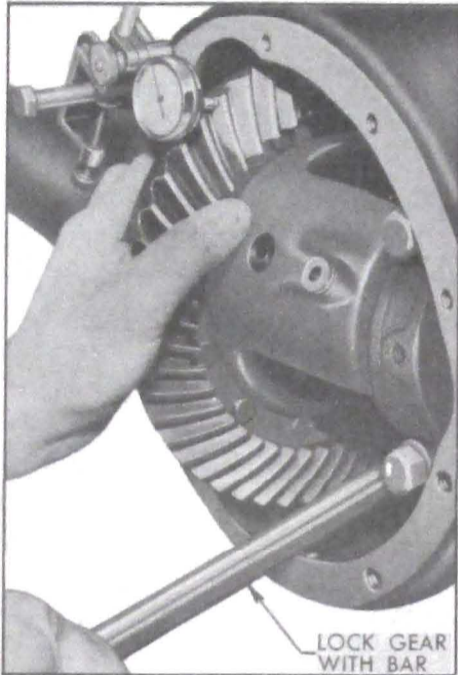

Figure 6-23—Checking Back Lash with Dial Indicator
8. Mount dial indicator as shown in figure 6-23. Use a small button on indicator stem so that contact can be made near heel end of tooth. Set dial indicator so that indicator stem is as nearly in line with gear rotation as possible. If stem bears against edge of tooth, or stem is at considerable angle to the line of gear rotation, a false indication of backlash will be obtained.